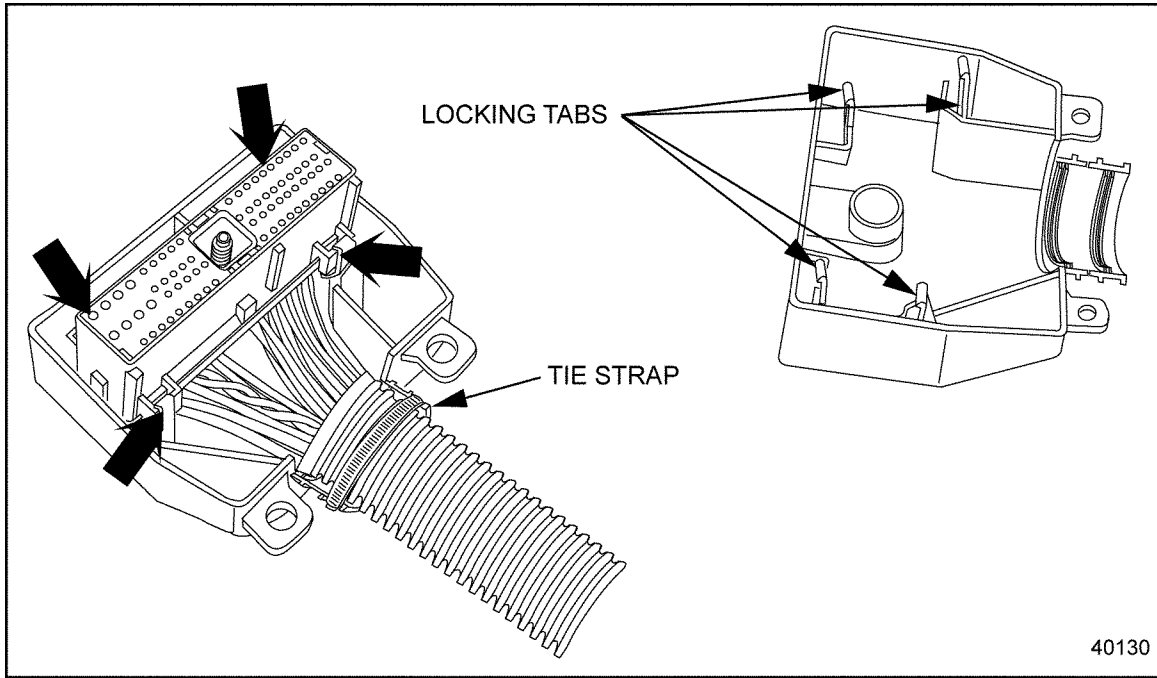

Figure 3-15 Shroud Tabs
- The two locking tabs in the shroud furthest from the wire inlet must be securely latched into the connector. The two tabs closest to the wire inlet should be snapped over the connector tabs (see Figure 3-15).